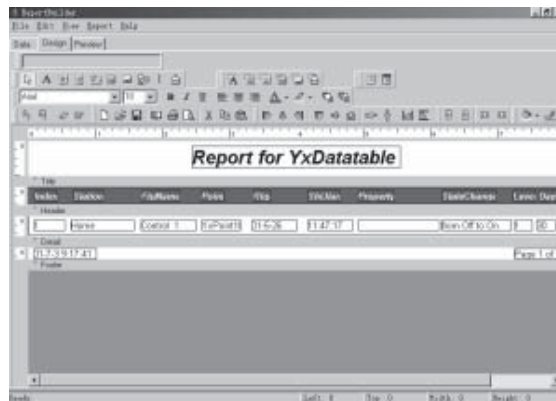

Fig. 7-7 Design the Report
(4) Design the Report: Select and click the button Design and it will enter the diagram of designing report as in Fig. 7-7. And then the user can design various reports according to the requirement.